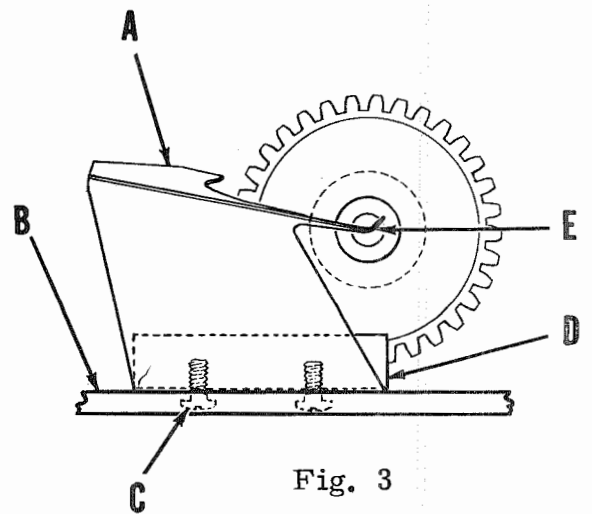

Fig. 3
Lubrication of the mechanism below the bed plate is automatically accomplished through the feed driving shaft which is tubular. Oil is introduced into the shaft at the gear end by means of an oil distributing plate (A, Fig. 3) which is secured to the large gear case cover (B) by means of two screws (C) and retaining block (D).